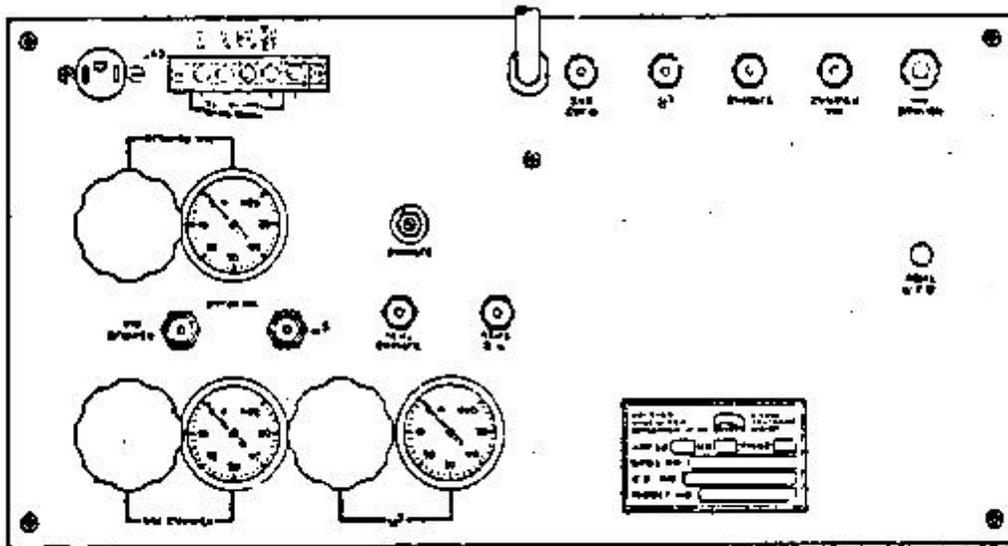

Figure J.1.3.2
- a. If the instrument is connected to a support module, turn the sample regulator (refer to Figure J.1.3.2), adjusting screw fully clockwise to decrease bypass flow from the regulator to a minimum. Then set sample vent flow using the sample vent control adjustment on the support module. If there isn't enough flow adjustment on the support module, adjust the sample flow needle valve (Figure J.1.1.1) to the right of the oven for the desired adjustment range.